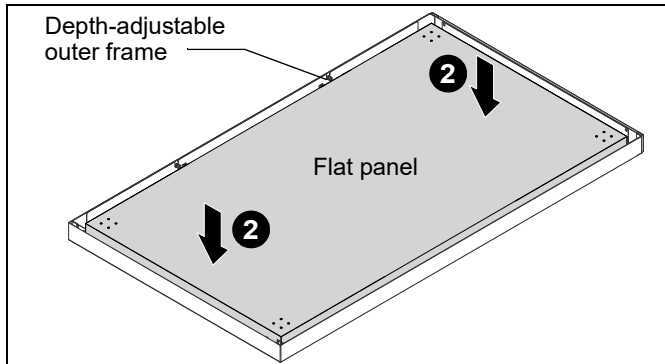

Figure 7
2. Carefully lay flat panel face down into the depth-adjustable outer frame. (See Figure 7)